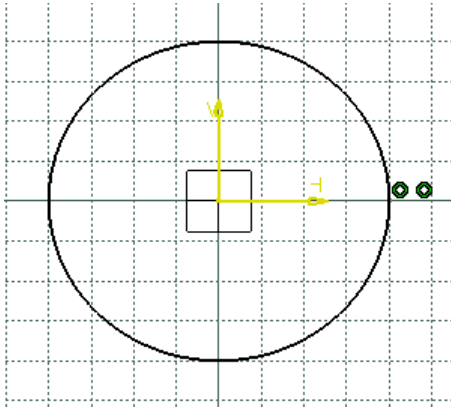

Figure 3-51 The sketch after drawing the first circle
- Start a new part file in the **Part** workbench and draw the outer loop of the sketch using the **Circle** and **By-Tangent Line** tools, refer to Figures 3-51 through 3-54.
- Move the cursor horizontally toward the right and click when the **R** edit box in the **Sketch tools** toolbar displays **40**; the circle is drawn, as shown in Figure 3-51.